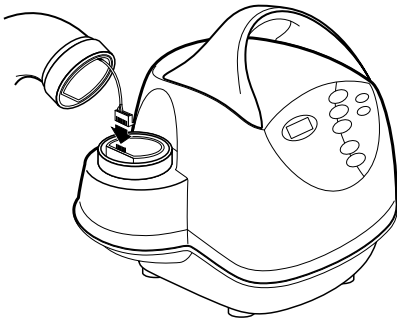

Figure 3. Warming Unit Hose Replacement
4. By hand or using a needle-nose pliers, carefully detach the cable connector from the header plug located inside the hose connector (see Figure 3. Hose replacement).